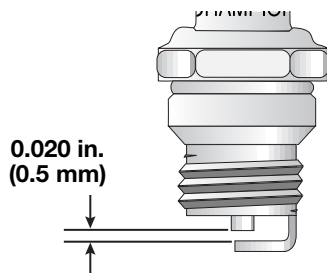

Fig. 32
3. Replace a cracked, fouled or dirty spark plug. Set the air gap at **0.020 in. (0.5 mm)** using a feeler gauge (Fig. 32).